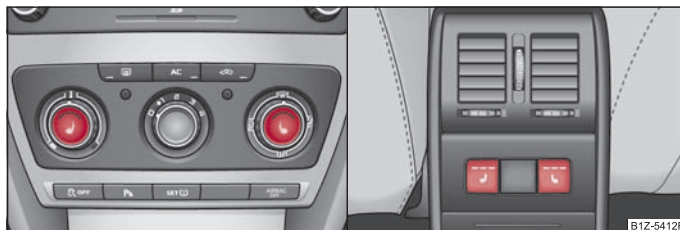

Fig. 1 Dash panel: Regulator for front seat heating front/rear
- Press the button  => fig. 1 - right to activate and regulate the heating for the left/right rear seat.